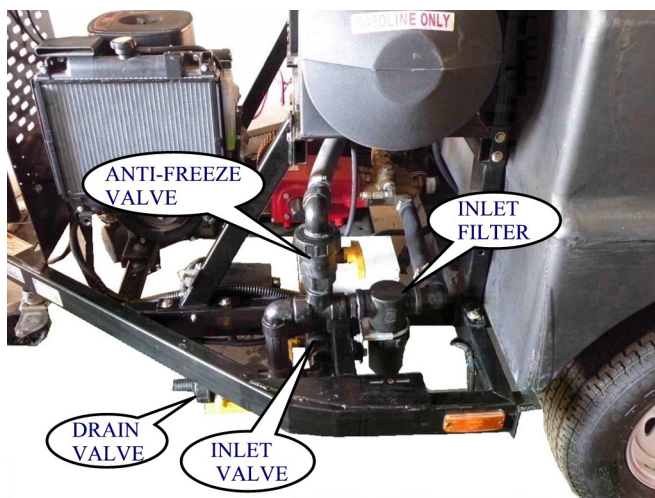

Fig. 20.1
5. Close the water supply valve and open the antifreeze supply valve (fig. 20.1).